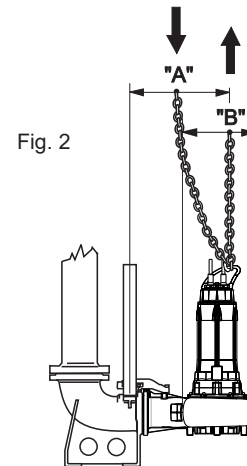

Fig. 2
1.5. - To remove the electric pump from its housing, first disconnect the electric cables from the control panel and operate the lift as indicated on page 20 (Fig. 2). Use a jet of clean water outside and inside the electric pump in order to wash off all residuals of the pumped fluid. Always wear accident-preventing goggles, rubber gauntlets, mask and a waterproof apron when carrying out these operations.